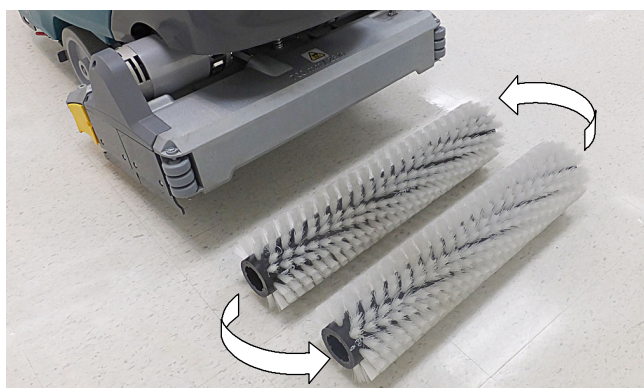

FIG. 67
2. Cylindrical brushes - Rotate brushes from front to rear (Figure 67). Replace brushes when they no longer clean effectively.